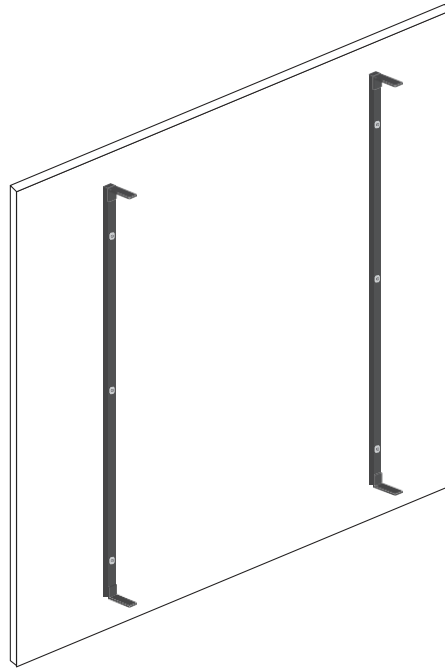

Figure 4: Attaching the Wall Boards to the Wall
8. Remove the boards from the frame and attach them to the wall using the provided hardware where applicable or other such appropriate fasteners (lag bolts, wall anchors, molly bolts, wood carriage screws, etc. (refer to Figure 4.))